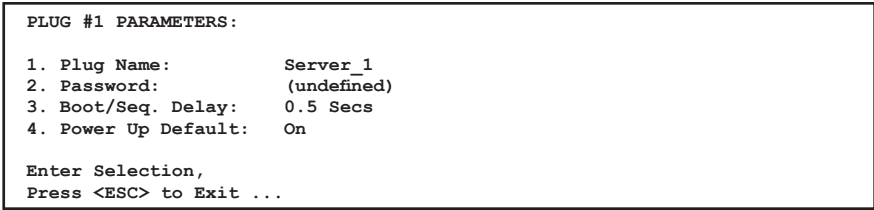

Figure 5.8: Plug Parameters Menu - Text Interface
- **Text Interface:** Type `/P n` and then press `[Enter]` (Where `n` is the number or name of the plug you wish to configure.) The Plug Parameters Menu will be displayed as shown in Figure 5.8.